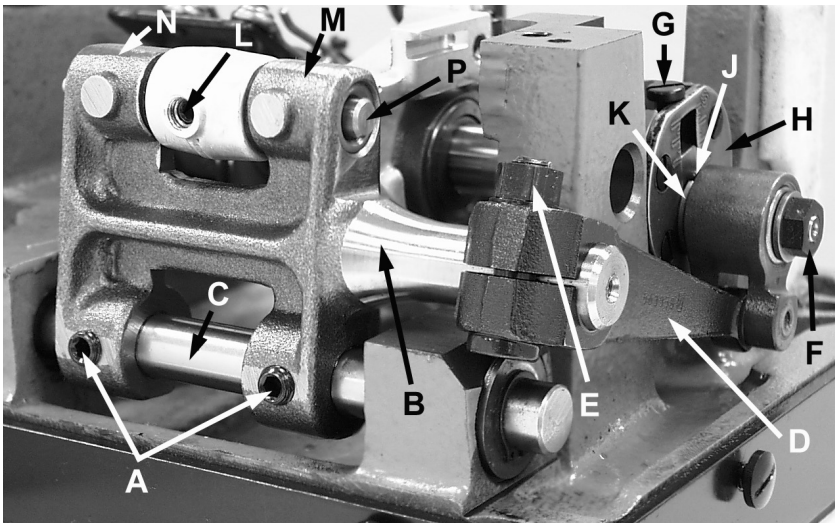

Fig 11
Right to left adjustment can be made by loosening screws (A, Fig. 11) and slightly move feed rocker (B) on feed rocker shaft (C) as required, then retighten screws. Check to ensure that feed rocker arm (D) does not bind after adjustment. Forward or rearward centering of feed dog can be accomplished by loosening nut (E, Fig. 11), move feed rocker (B) as required and retighten nut.
Set the stitch to required length. This is accomplished by loosening lock nut (F, Fig. 11) 1/2 turn, (it has a left hand thread) on the end of the stitch regulating stud and turning stitch adjusting screw (G) located under the left end of the cloth plate in the head of the main-shaft (H), which is marked with "L" and "S". Turning the screw in a clockwise direction shortens the stitch (moves stitch regulating stud toward the "S") and turning it in a counterclockwise direction lengthens the stitch (moves stitch regulator stud toward the "L"). Retighten the lock nut securely. To prevent destructive damage to the feed drive bearing, key screw (J) must engage the "U" shaped key slot in ferrule (K).
The feed rocker assembly may require lubrication and repair after years of operation. This can be accomplished as follows: Loosen nut (E, Fig. 11) and remove nut (F). Remove feed rocker arm (D) from machine by rocking s'lightly. Loosen screws (A) and remove stop collar on right end of shaft (C). Shaft can now be withdrawn. Loosen Allen screw (L) and remove shaft (P), Now repack bearings.
When packing bearings, parts must be clean and grease should be applied directly from the tube to avoid contamination. Tube of grease can be ordered under part No. 28604 P. Greased bearings are located at (N, M, Fig. 11). If grease sealed bearings are replaced, they should be pressed in flush with the casting. To assemble, start tapered end of shafts first, twisting slightly when entering the grease seals to prevent damage. Check for proper adjustment of feed dog as described under the "Feed Dog Settings". Also check to see that there is no binding at any point.